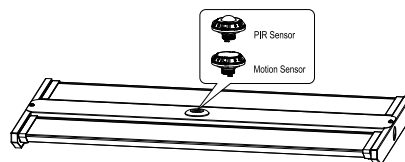

Figure 13
Step2. Twist-lock the DC sensor to the base to make it work properly, use a remote control to adjust the working mode as per demand. (Figure 13)